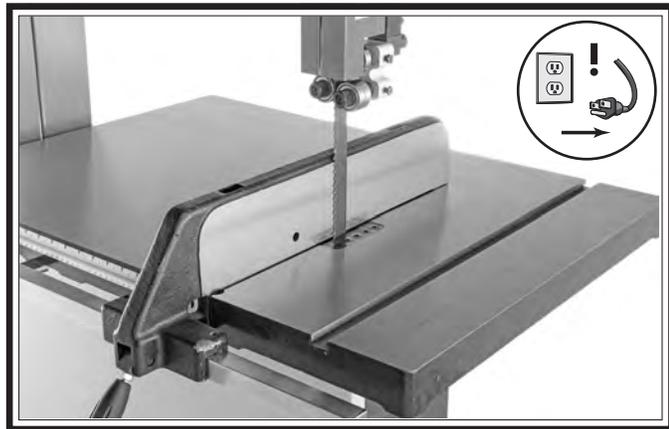

Figure 49. Fence against the blade.
3. Position fence against left side of blade so it is touching the blade without applying pressure to it (see Figure 49), then lock fence in place.